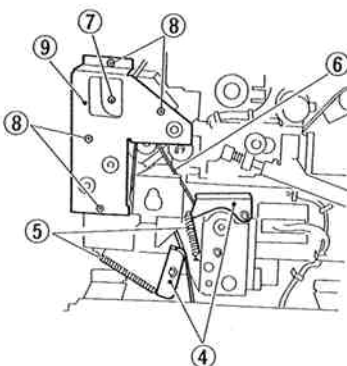

Figure 4-231
- 6) Detach the spring ⑤ from the tension pulley assembly ④, and loosen the tension of the drive belt ⑥; see Figure 4-231.
- 7) Loosen the mounting screw ⑦ to loosen the drive belt in the pick-up drive assembly ⑨.
- 8) Remove the four mounting screws ⑧, and detach the pick-up drive assembly cover.